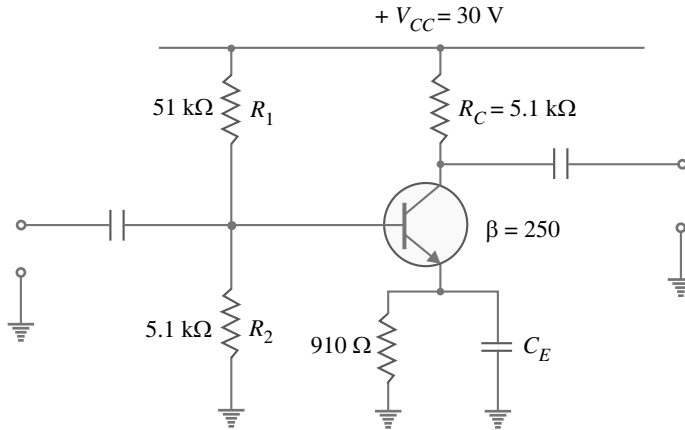

Fig. 8.61
9. Determine the voltage gain for the amplifier circuit shown in Fig. 8.61.
10. What is the input impedance of the amplifier circuit shown in Fig. 8.61? [1.75 k $\Omega$ ]